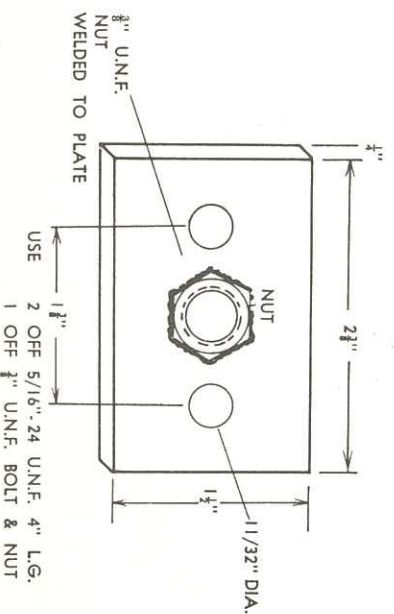

FIG. 2 — Steering Wheel Puller Dimensions
4. Remove the steering wheel nut and then remove the wheel using a tool made up to the dimensions in Fig. 2 or using Litchfield tool No. E201.